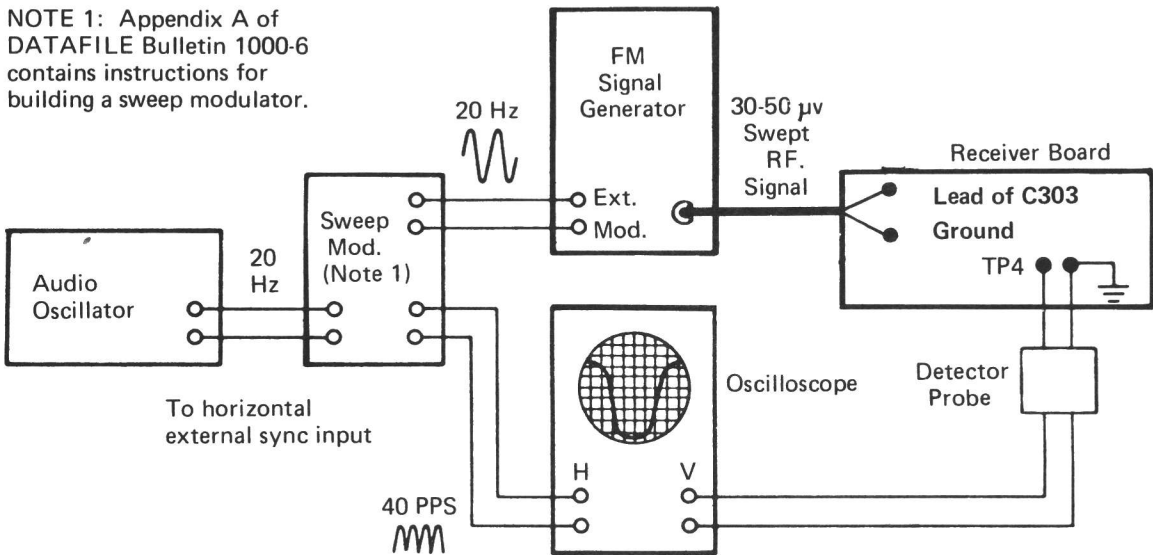

Figure 10 - Test Setup for 20-Hz Double-Trace Sweep Alignment
- 3. Connect the signal generator as recommended in Figure 10.
- 3. If Test Fixture Model 4EX17A10 is used, connect the signal generator to the Test Fixture antenna connector. If the Test Fixture is not used, connect the signal generator between the lead of C303 shown and ground. The recommended signal generator set-up is shown in Figure 10.